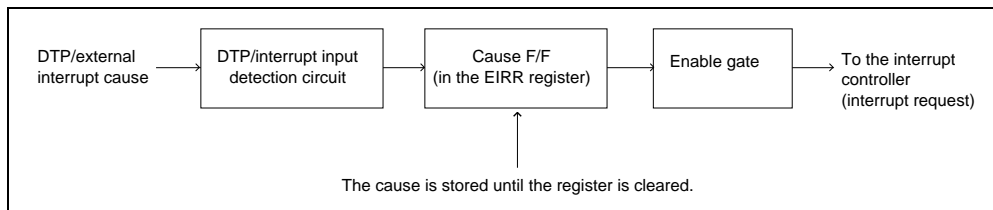
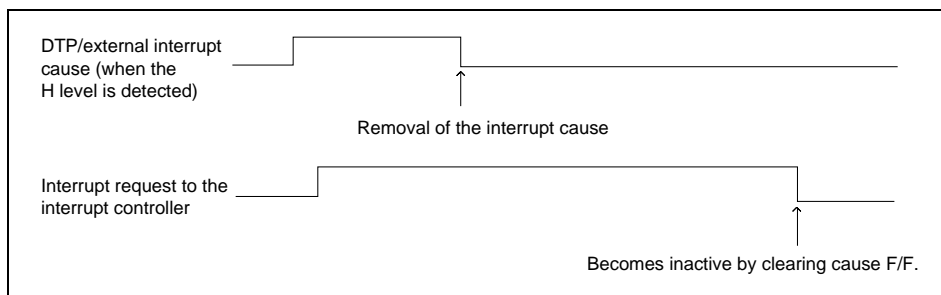

Figure 14.6-1 Clearing the cause retention circuit when a level is specified
Figure 14.6-2 DTP/external interrupt cause and interrupt request when the output of interrupt requests is enabled
- If the register is set for level detection, and the level to be detected as an interrupt cause is input, cause F/F in the DTP/interrupt cause register (EIRR) is set to “1” to store the cause, as shown in Figure 14.6-1. Even if the cause is removed, the request to the interrupt controller remains active provided the output of interrupt requests is enabled. Thus, to cancel the request to the interrupt controller, clear the external interrupt request flag bit and cause F/F, as shown in Figure 14.6-2.